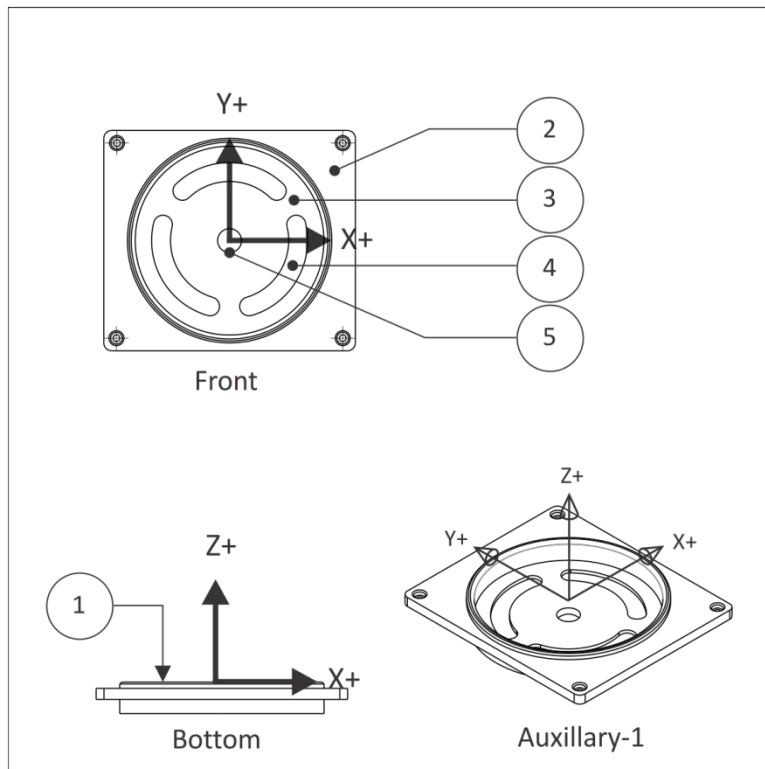
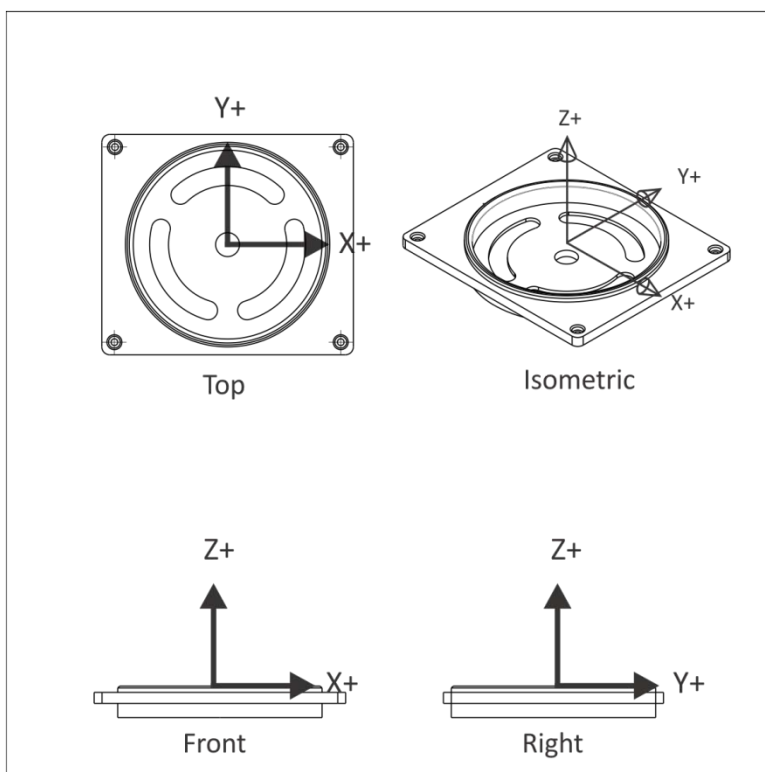

Figure 1: Prismatic Part (Orientation in CAD)
Figure 2: Prismatic Part (Orientation in CAM)
Figure 1 shows a prismatic part. All machined features lie parallel to the XY plane. Each Z-level can be machined by positioning the tool at a fixed Z-level and then moving the XY axes to remove material. Every feature can be reached with the tool approaching either from the Front or Bottom views. There are several cutting planes in this example, including the model top (1), top of the face where the holes start (2), the bottom of the pocket (3) where the slots begin, the bottom of the slots (4), and the bottom of the hole through the center (5).
Figure 1 shows the part oriented as it is modeled in the mechanical CAD software. For CAM, it is helpful to display the part in the same orientation as viewed while sitting on the CNC machine. For a Vertical Machining Center (VMC) this requires updating standard views to look like those shown in Figure 2. The G-code file is generated in relation to the Work Coordinate System (WCS), so changing views is not required for CNC programming. It simply helps visualize CNC machining processes when using CAM.
In SolidWorks to switch views from CAD space (Figure 1) to CAM space (Figure 2) to the following:
1. Open the **View Orientation** dialog and select **Front** (view) so the part displays as shown in Figure 1.